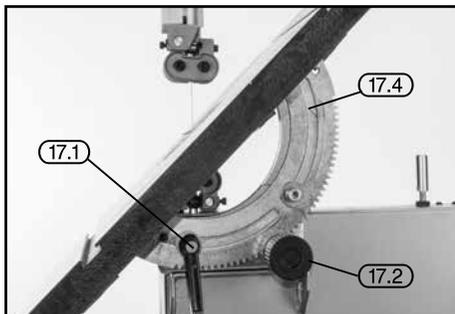

FIG. 10
9.3 TILTING THE TABLE – FIG. 10